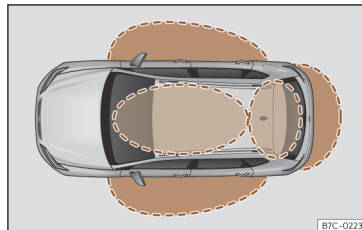
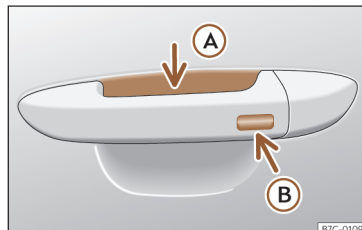

Fig. 71 Keyless Access: proximity zones.
Fig. 72 Door handle: sensor surfaces
in the detection area where you are attempting to access the vehicle»» **Fig. 71** and to touch one of the sensor surfaces on the door handles»» **Fig. 72** or operate the *soft-touch*/handle on the rear lid
If a valid key is in the proximity of the car, »» **Fig. 71** the Keyless Access locking and starting system gives the key entry as soon as one of the sensor surfaces on the door handles is touched or the *softtouch*/handle on the rear lid is operated.
- Grip one of the front door handles. When you do this, you touch the sensor surface »» **Fig. 72** (A) (arrow) of the handle and the vehicle unlocks.
- Touch (*once*) the locking sensor surface »» **Fig. 72** (B) (arrow) on one of the front door handles. The door that is used must be closed.
• Touch (once) the sensor surface»» **Fig. 72** **B** (arrow) on one of the front door handles. The vehicle locks with the “Safe” security system»» page 96. The door that is used must be closed.
• Touch (twice) the sensor surface»» **Fig. 72** **B** (arrow) of one of the front door handles to lock the vehicle without activating the “Safelock” security system»» page 96.
When the vehicle is locked, the rear lid automatically unlocks on opening if there is a valid vehicle key in the proximity zone »» **Fig. 71**.
- Push the central locking button  on the remote control and touch the locking sensor surface of the driver door handle »» **Fig. 72** **B** within the following 5 seconds. Do not grasp the door handle; otherwise the vehicle will not unlock. Deactivation is also
To close all the electric windows and the sunroof using the **comfort function**, keep a finger for a few seconds on the locking sensor surface»» **Fig. 72** **B** (arrow) of the door handle until the windows and roof have closed.
The sensor surfaces on the door handles could engage if hit with a water jet or high pressure steam if there is a valid vehicle key in the proximity. If at least one of the electric windows is open and the sensor surface »» **Fig. 72** **B** (arrow) on one of the handles is
- **OR:** touch the sensor surface on the outside of the door handle *twice* >>> **Fig. 72** .